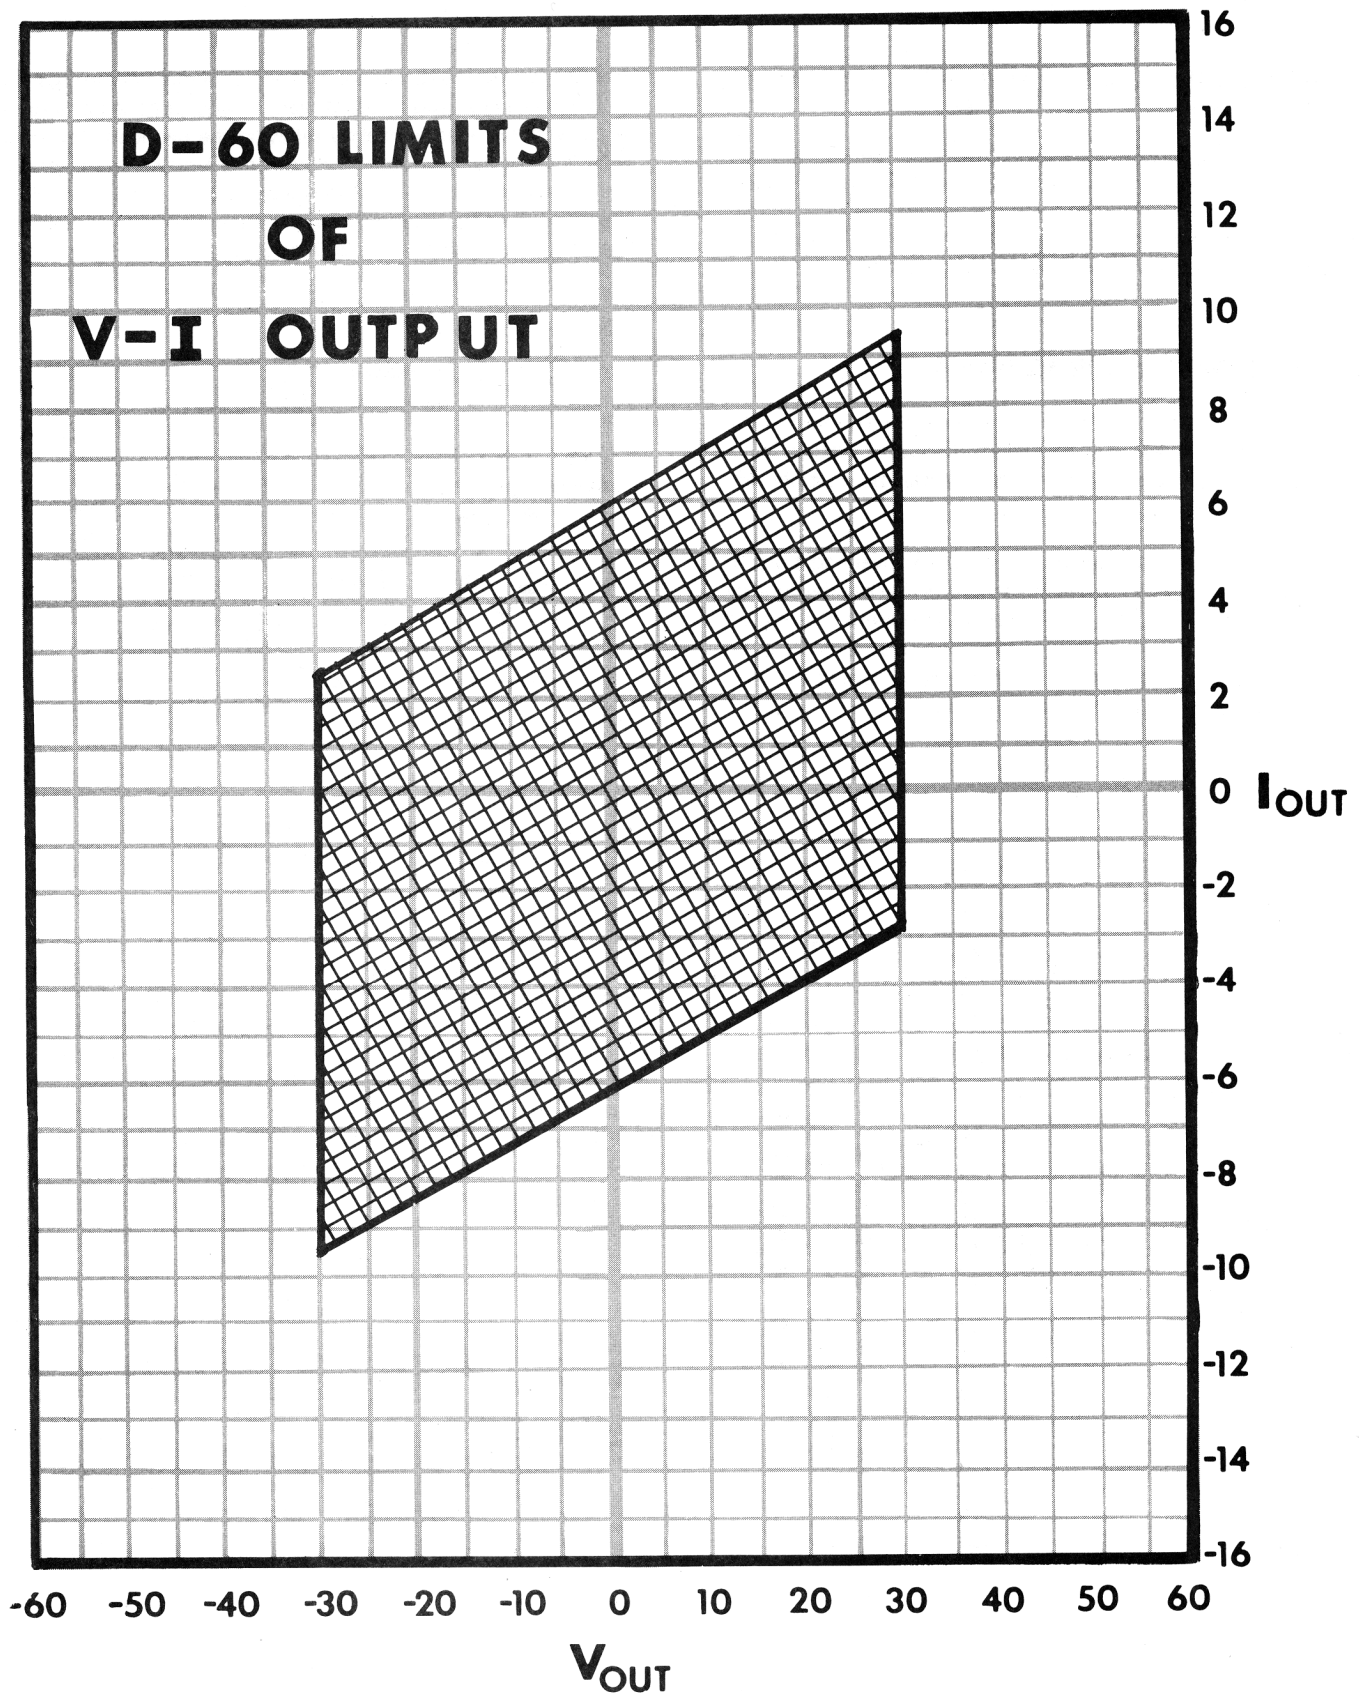

FIGURE 3-3
The operating area in which the amplifier will drive the load without being V-I limited is depicted by the cross-hatched area in Figure 3-3.
If a load initiates the amplifier protection circuitry, it can generally be detected by watching the amplifier transfer characteristics on an oscilloscope or by plotting the V-I behavior of the load on Figure 3-3. In applications where the load is a loudspeaker, amplifier protection will be evidenced by distortion in the speaker. The audible effect ranges from something resembling cross-over notch distortion to a snapping sound, depending on the overall load characteristics. Speaker systems which are truly 4 ohms or greater will not initiate the protection system.
3. Never drive a transformer-coupled device or any other device which appears as a low frequency short (less than 3 ohm) without a series isolating capacitor. Such operations may damage the device and/or needlessly activate the V-I limiting (see Figure 3-3).